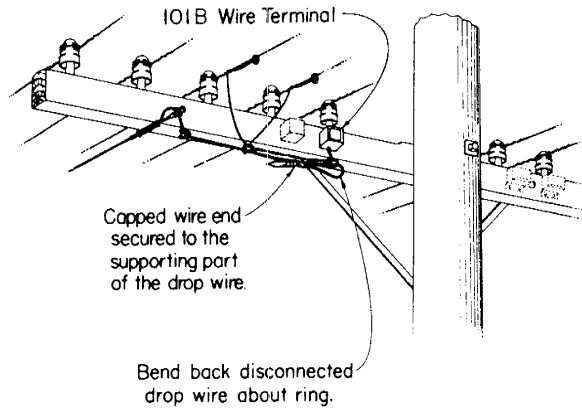

Fig. 10 — Wire Terminal Mounted on Crossarm
**4.02 Drops from Open Wire Lines:** Pull disconnected drop from the wire terminal mounted on the crossarm or pole. Lay wire back on itself at drive ring located below the wire terminal, tag and cap the free end and secure it to the supporting part of the drop as shown in Fig. 10.